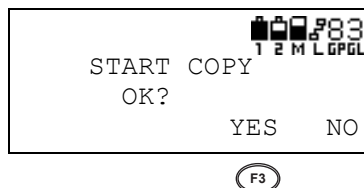

Figure 3-100. Press F3 to Copy
- Press **F3** (YES) to begin the copying process (Figure 3-100).